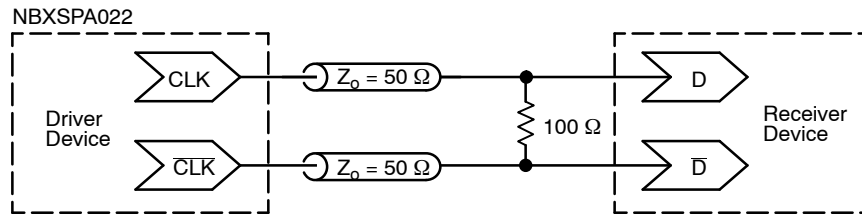

Figure 4. Typical Termination for Output Driver and Device Evaluation
2. Measurement taken with outputs terminated with 100 ohm across differential pair. See Figure 4.
- Measurement taken with outputs terminated with 100 ohm across differential pair. See Figure 4.